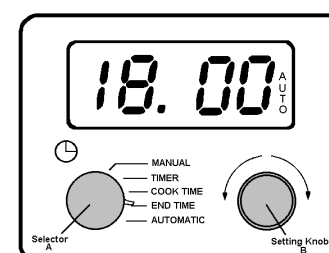

Fig.9
- v) Turn the selector (A) to 'End Time'. Turn setting knob (B) until the time you want the food to be cooked is visible, e.g. 18.00 hours (6 pm.) The cooking symbol will go out. Fig.9.
- vi) Turn the selector (A) to 'Automatic'. The display returns to show the time of day. The 'AUTO' symbol will remain lit.